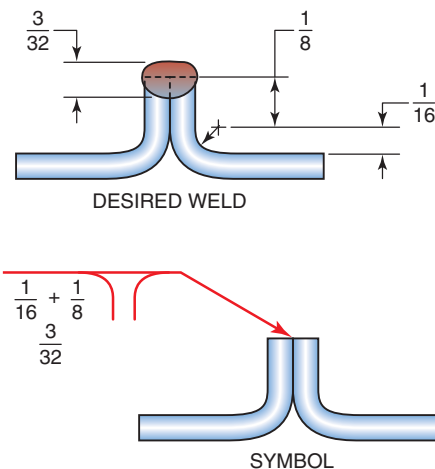

Figure 3.48 Applying dimensions to flange welds
- The dimensions of flange welds are shown on the same side of the reference line as the weld symbol and are placed to the left of the symbol, Figure 3.48. The radius and height above the point of tangency are indicated by showing both the radius and the height, separated by a plus sign.